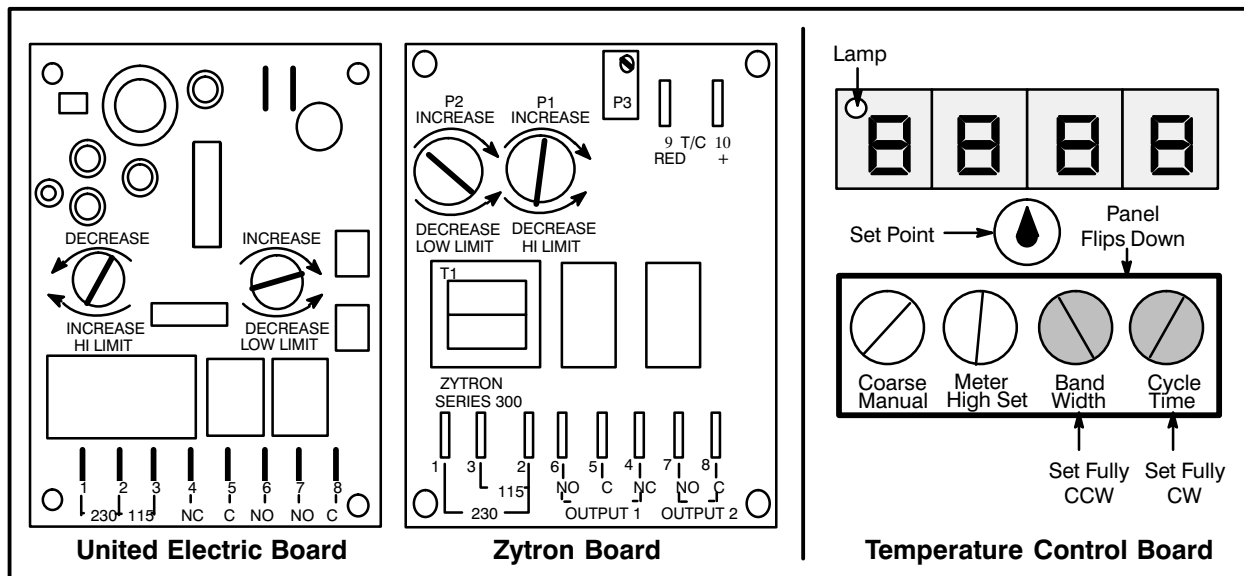

FIGURE 6
4. To adjust the temperature, turn the low-limit potentiometer. A clockwise rotation increases the setting, counter-clockwise decreases it. See FIGURE 6.
2. Adjust the set point for 500°F (260°C). Monitor the Indicator Lamp. See FIGURE 6. When the lamp goes out, compare the pyrometer with the temperature of the display. If the display differs by +/-5°F (3°C), open the access panel on the temperature controller and continue with STEPS 3 and 4.
2. Set the temperature to 620°F (327°C). When the display reads 600°F (316°C), the burner blower motor should shut off. If the temperature rises above 600°F (316°C), adjust the hi-limit pot (See FIGURE 6) so the burner shuts off at 600°F (316°C). A clockwise rotation of the high-limit pot increases the temperature, counter-clockwise decreases it.